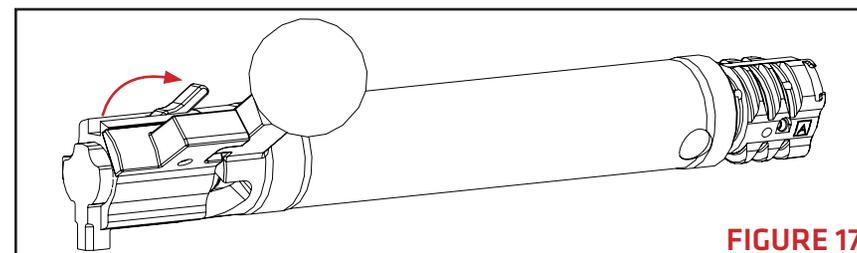

FIGURE 17
- Rotate the cocking piece lever forward until it rests against the cocking piece shroud (FIGURE 17).